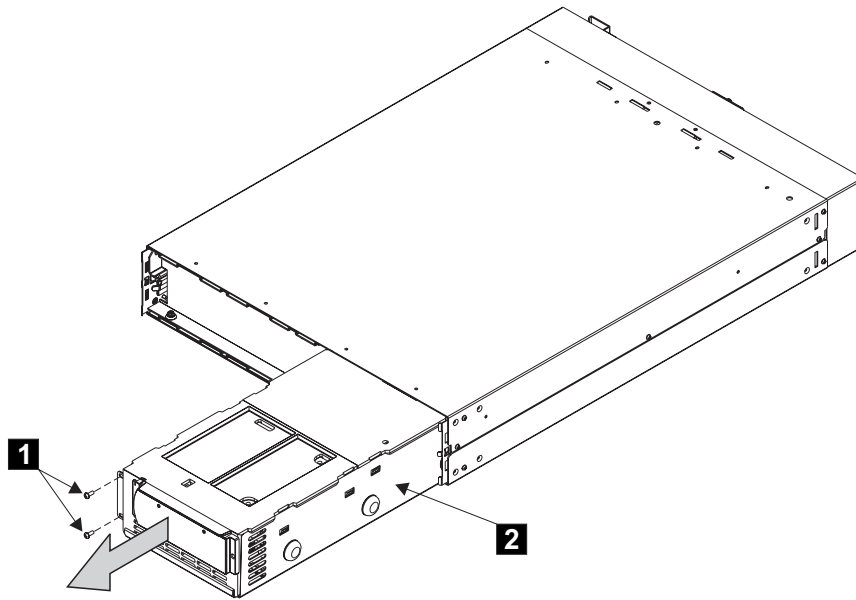

Figure 29. Removing the 2145 UPS electronics assembly
3. Remove the two screws **1** (Figure 29).